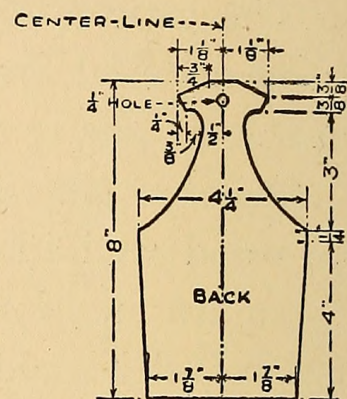

FIG. 115. — Whisk-broom Holder shown in Fig. 108.
**A Whisk-broom Holder** such as is shown in Fig. 108 is a handy article for a bedroom. It should be made out of  $\frac{1}{2}$ -inch stuff (which is  $\frac{3}{8}$  inch thick *dressed*) with the different parts cut as shown in the working-drawings (Fig. 115). In order to get the two side edges of the back piece alike, first draw a center-line upon the piece of wood as shown, then lay off the dimensions each side of this. Draw the curve upon one side, then reproduce it upon the other side at an equal distance from the center-line, tracing it off with a piece of tracing-paper to get the curves alike. Lay off the tapered edges of the front piece each side of a center-line in the same way. With the front, back, and side pieces prepared, nail them together with 1-inch brads, set the brad-heads, then sandpaper, putty, and finish.